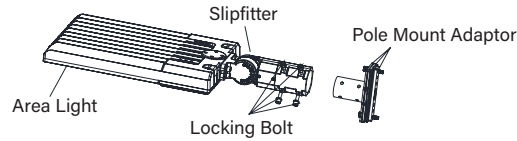

Figure 2
1. Remove the pole mount adaptor from the slipfitter, if not already removed during **Mounting Bracket Installation**. (Figure 2)